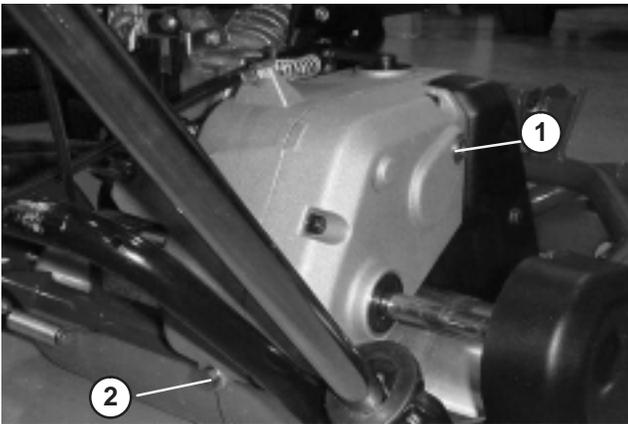

Figure 35
- Remove the drain plug from the rear of the transmission (Fig. 35).
- Push down on the handle and tip the machine back. Remove the check/fill plug from the right-hand side of the transmission (Fig. 35).